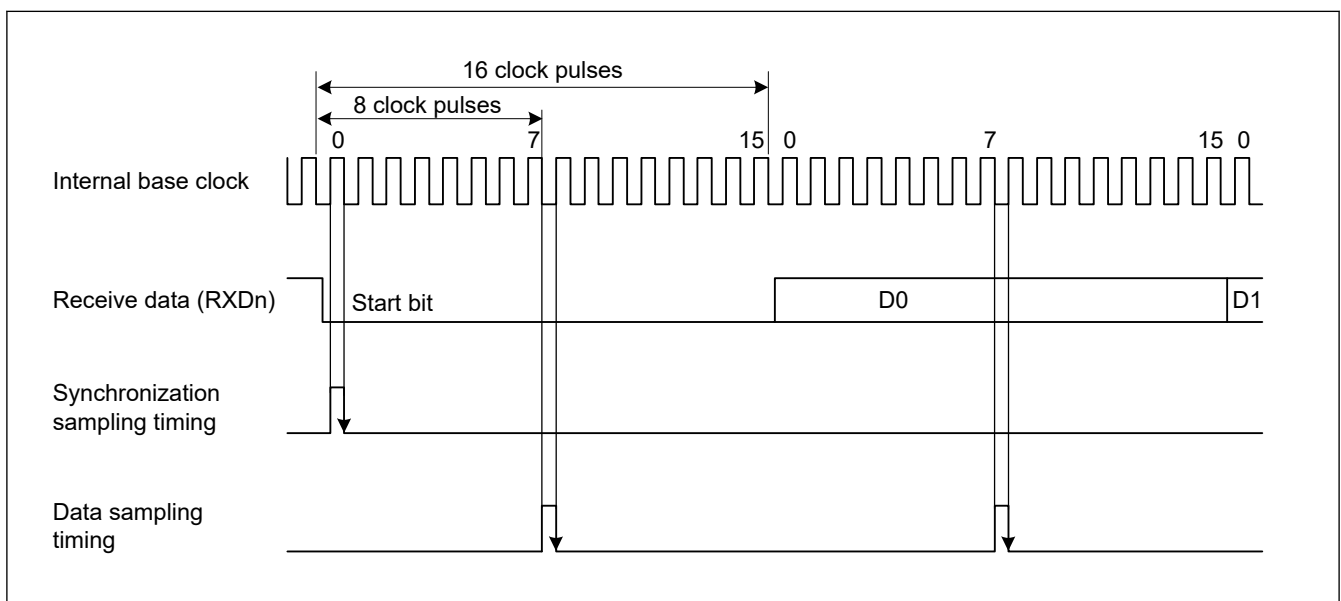

Figure 27.4 Receive data sampling timing in asynchronous mode
Because receive data is sampled on the rising edge of the 8th pulse\*1 of the base clock, data is latched at the middle of each bit (when sampling timing does not adjust (SPTR.ASEN = 0) ), as shown in Figure 27.4 The reception margin in asynchronous mode is determined by the following formula (1):
The determination condition of a start bit is that Low beyond half bit length continues. It is same as the sampling timing. In Figure 27.4, Low period should be kept over 8-cycles to detect a start bit. If Low period does not keep over 8-cycles, the IP judges this as a noise. So, the IP does not start reception and wait start bit.